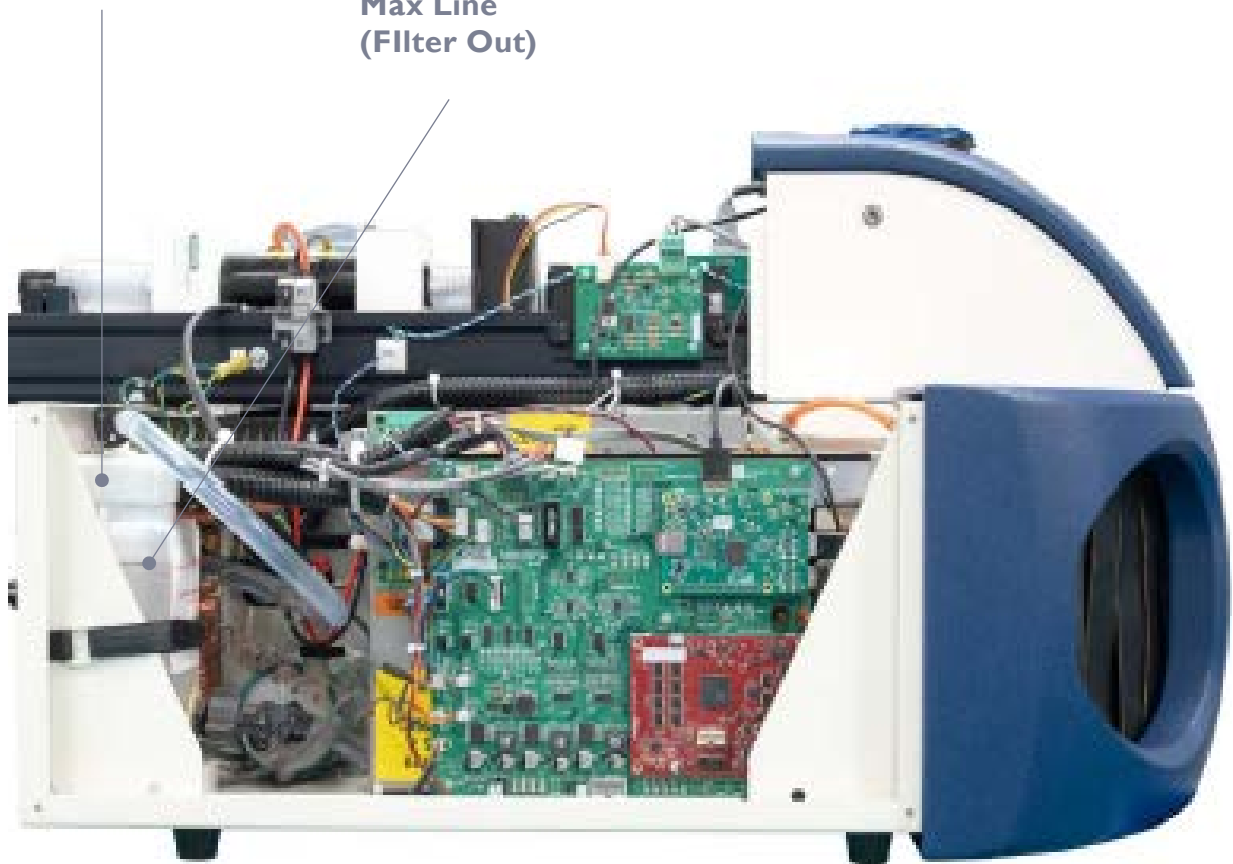

Figure 5
8. The distilled water bottle is located in the rear of the welder, as shown in **figure 5**. Loosen the distilled water bottle twist cap, as shown in **figure 6**.